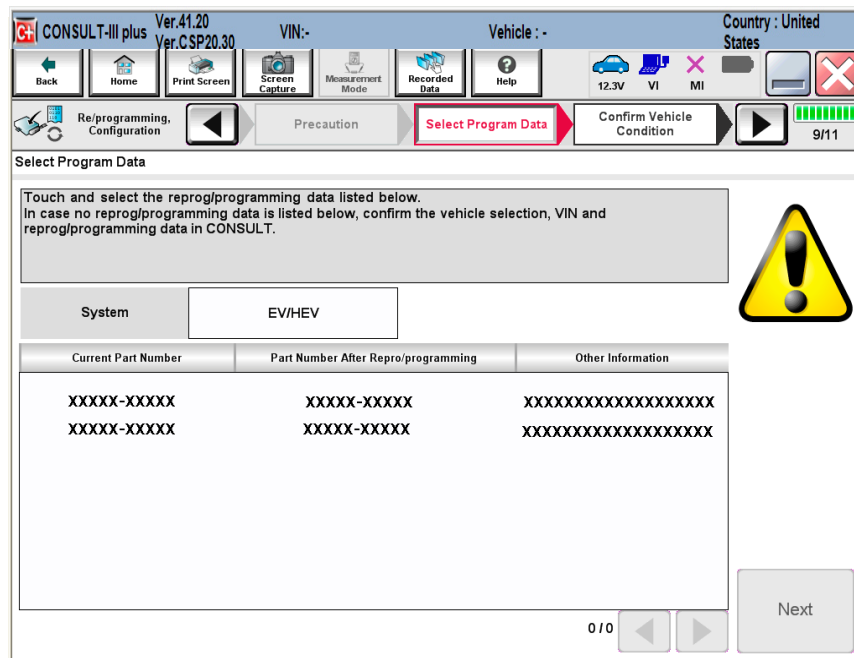

Figure 10
- If more than one P/N is available, the screen in Figure 10 will display. Select and use the reprogramming option that **does not** have the message "Caution! Use ONLY with ITBXX-XXX".